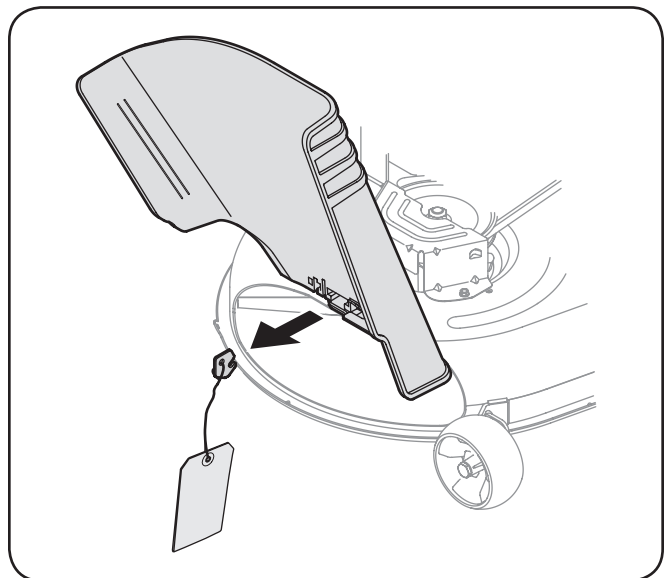

Figure 3-2
1. Check the mower deck for a shipping brace that may be holding the chute deflector upward for shipment. If the brace is present, it must be removed before operating the tractor. Holding the chute deflector fully upward, remove the shipping brace. Lower the chute deflector and discard the shipping brace. See Figure 3-2.